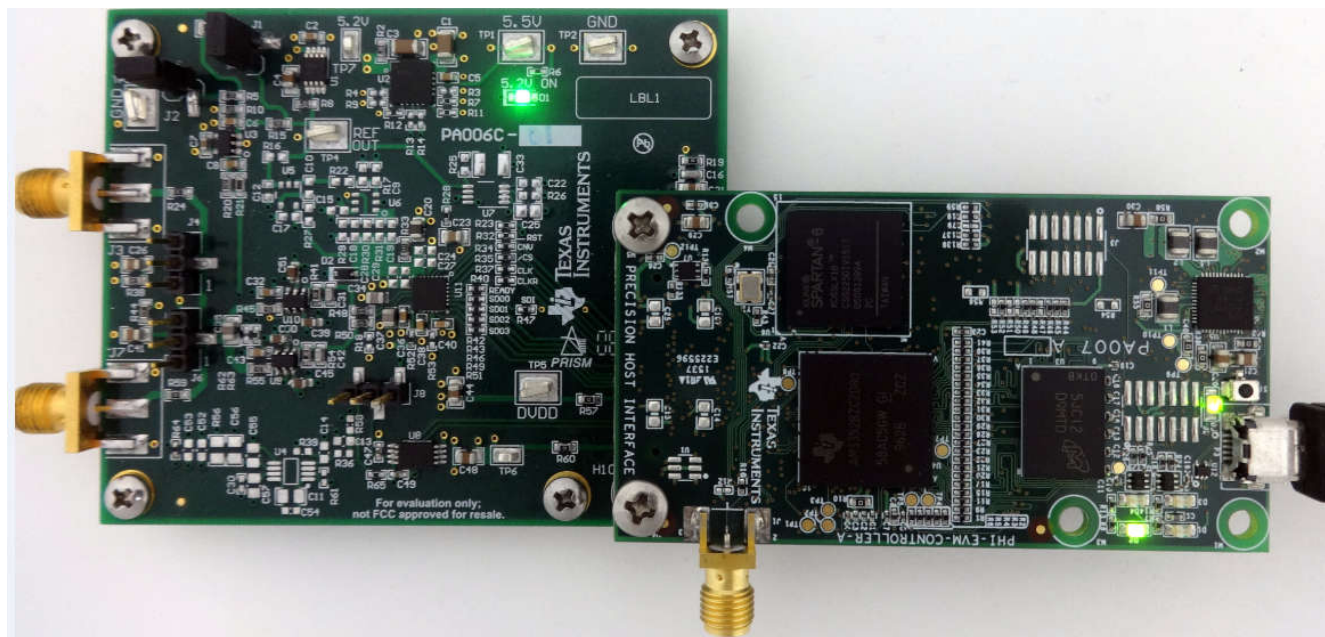

Figure 6-1. EVM-PDK Hardware Setup and LED Indicators
1. Connect the ADS9110EVM to the PHI. Install the two screws as indicated in Figure 6-1.
- LEDs D1 and D2 on the PHI start blinking to indicate that the PHI is booted up and communicating with the PC. The resulting LED indicators are shown in Figure 6-1.